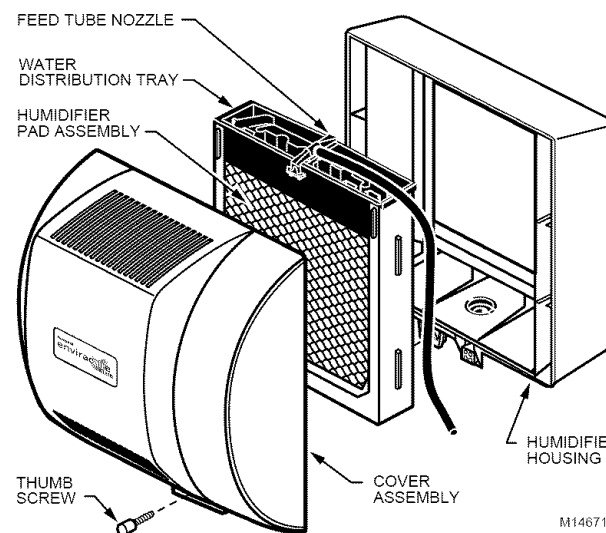

Fig. 3. Humidifier components.
5. Remove the humidifier pad assembly by grasping the top of the tray and pulling the assembly out of the housing. See Fig. 3.